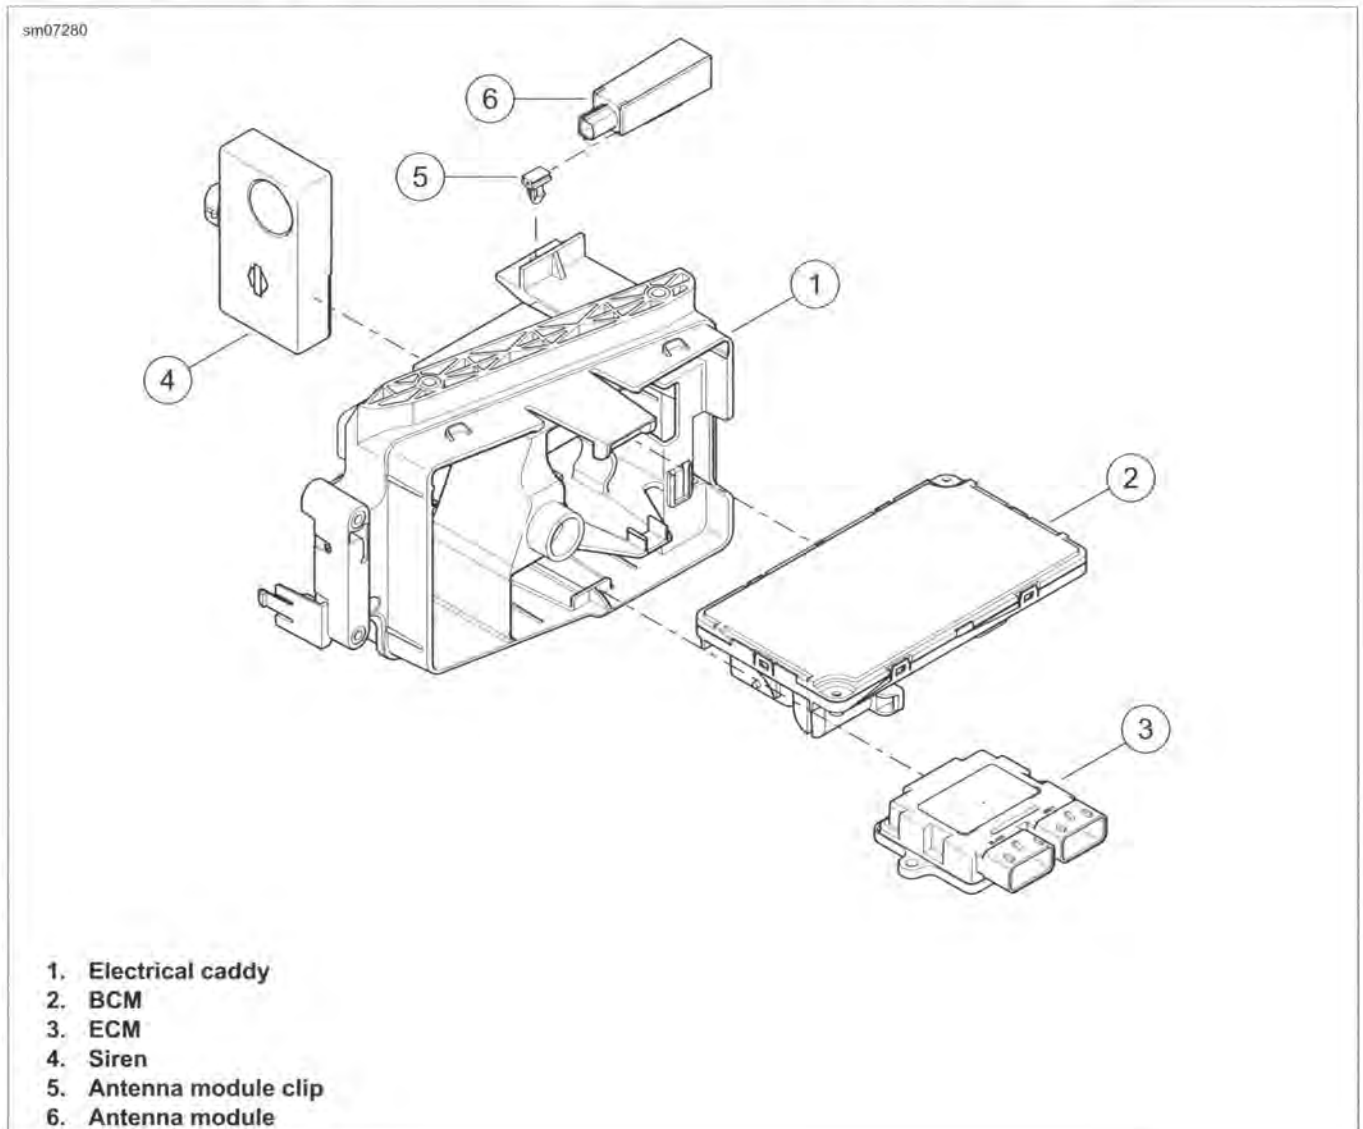

Figure 7-6. Electrical Caddy Components
See Figure 7-6. The BCM (2) is on the left side of the vehicle in the top of the electrical caddy. The BCM supplies ignition and accessory power to the vehicle. The fuses are the main fuse (40 amp), the battery fuse (15 amp) and the accessories fuse (15 amp). For diagnostic information see the electrical diagnostic manual.
3. See Figure 7-6. Slide BCM (2) out of electrical caddy (1).
2. See Figure 7-6. Connect both BCM connectors [259], [242]. Install BCM (2) into electrical caddy.